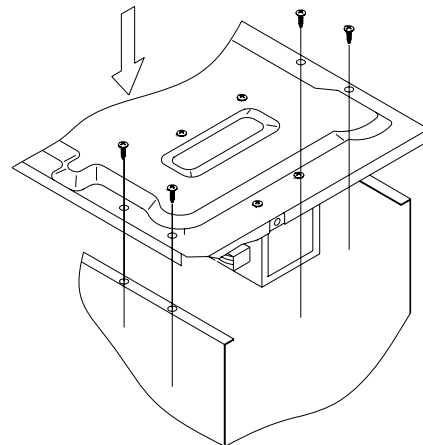

Fig. 4-10
2. Fix the transformer on the oven as FIG.4-10.tear off the protect paper of the rubber spacer, set it between the transformer and the oven, make sure the adhesive side is stuck on the oven.